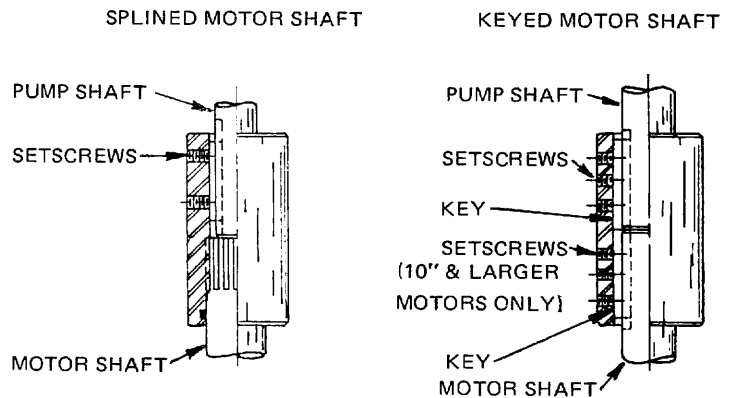

Fig. 5 Shaft Coupling Detail
5. Install the key in the motor shaft. See Fig. 5. Splined motor shafts do not use a key.